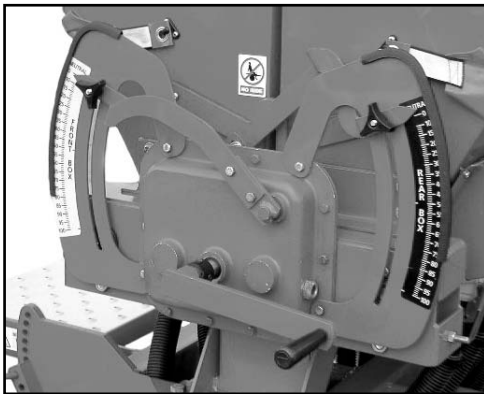

Fig 8
- 7 Place the crank handle over the hexagonal drive dog on the gear box and turn clockwise until the seed flows consistently from the seeders (Fig 8). To ensure complete filling of the seed unit continue turning the crank until the calibration tray is approximately half full then empty into the seedbox. The drill is now ready for calibration.